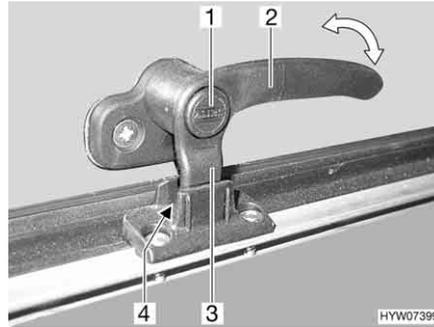
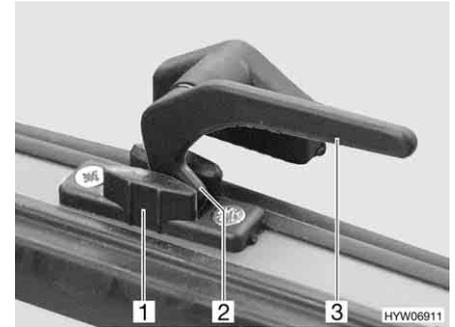

Fig. 65 Catch lever with safety knob in "continuous ventilation" position
Fig. 66 Catch lever in the "continuous ventilation" position
- "Continuous ventilation" (Fig. 65 and Fig. 66)
- Press and hold the security button (Fig. 65,1), if present.
- Turn the catch lever (Fig. 65,2 or Fig. 66,3) a quarter turn towards the centre of the window.
- Return the catch lever to its initial position. Move the locking catch (Fig. 65,3 or Fig. 66,2) on the catch lever into the recess of the window catch (Fig. 65,4 or Fig. 66,1).